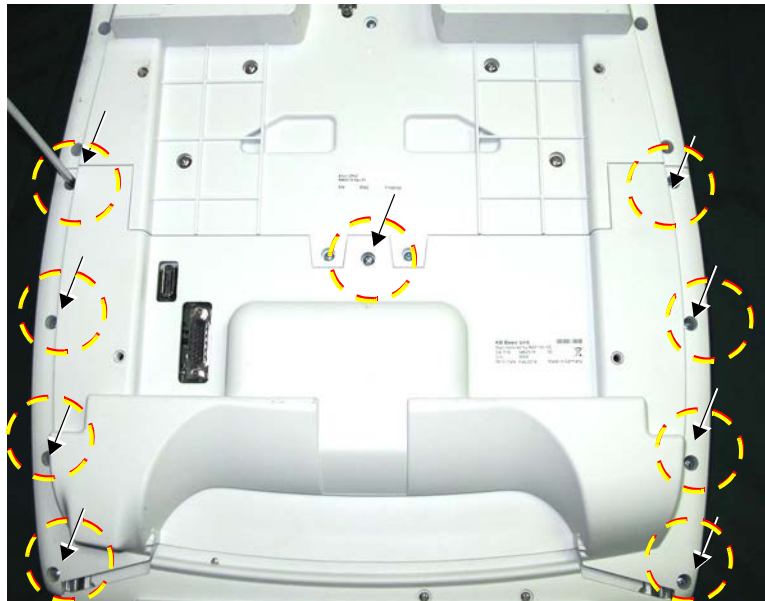

Figure 8-58 Operator Panel Keyboard Assembly - Bottom Cover Securing Screws
- 3.) Loosen and remove the 9 Phillips screws that secure the bottom cover in place - see Figure 8-58
- 3.) Return and fasten the 9 Phillips screws (previously removed) to secure the bottom cover to the keyboard assembly - see Figure 8-58.